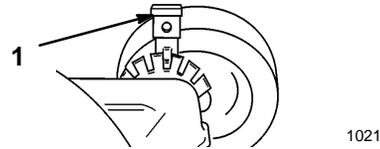

Figure 14
1. Pull the adjusting lever toward the wheel and move it to the desired position (Fig. 14).